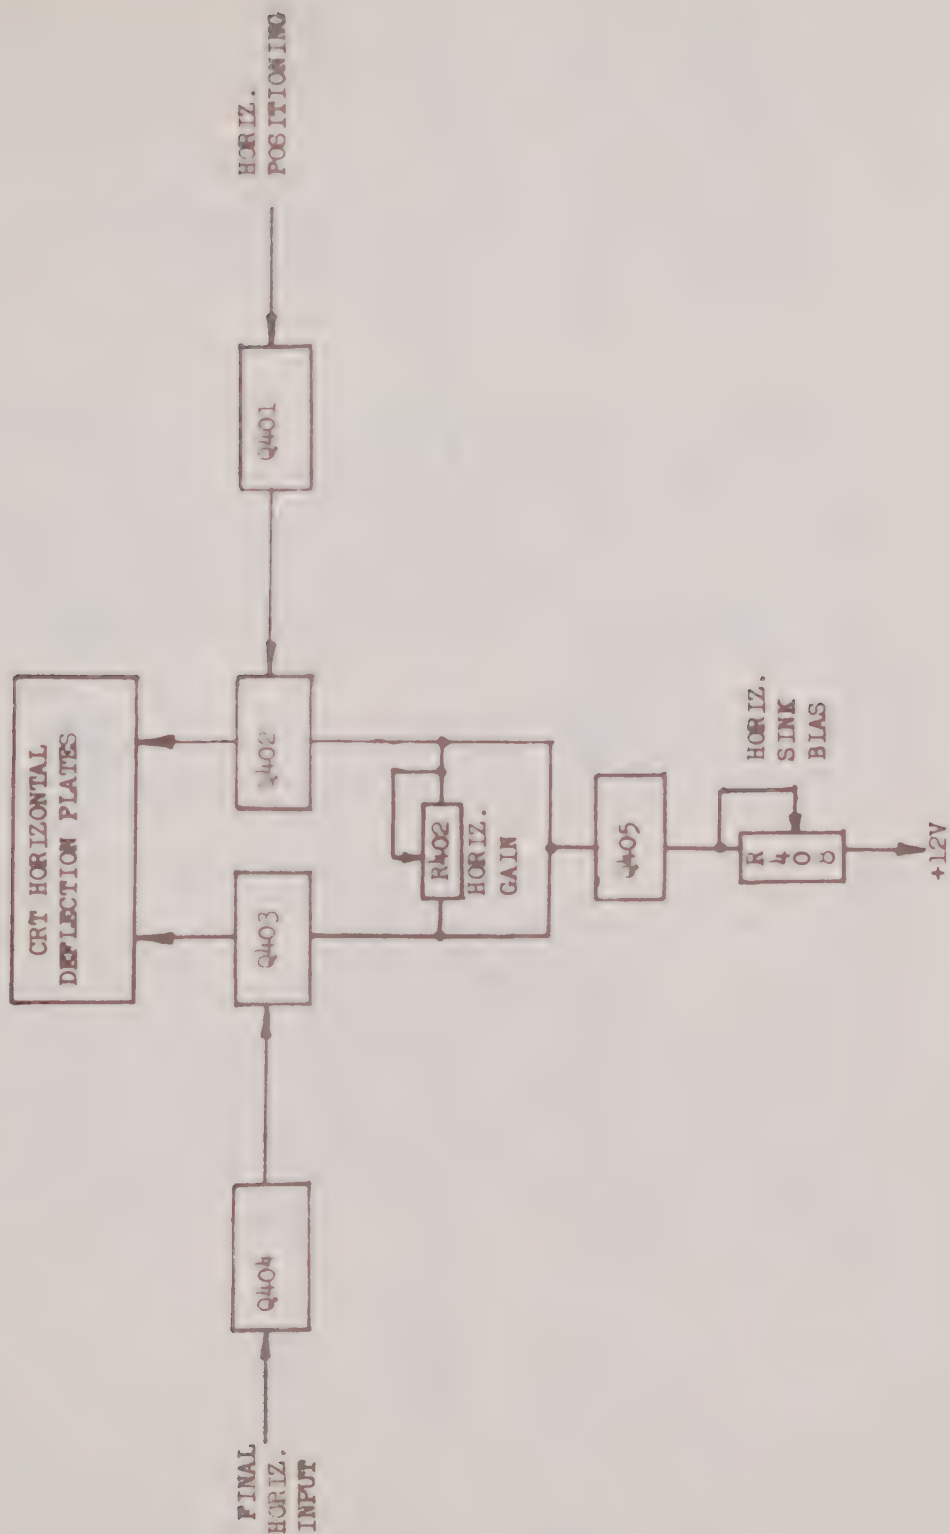

Figure 4-6 Block Diagram of the Horizontal Amplifier Circuit
4.3.3 DEFLECTION AMPLIFIERS. The Horizontal and Vertical circuits are mounted on the same circuit board. The vertical and horizontal board is located in the lower left section of the Display unit (see Reference Schematic 50E618 and Figure 4-6).